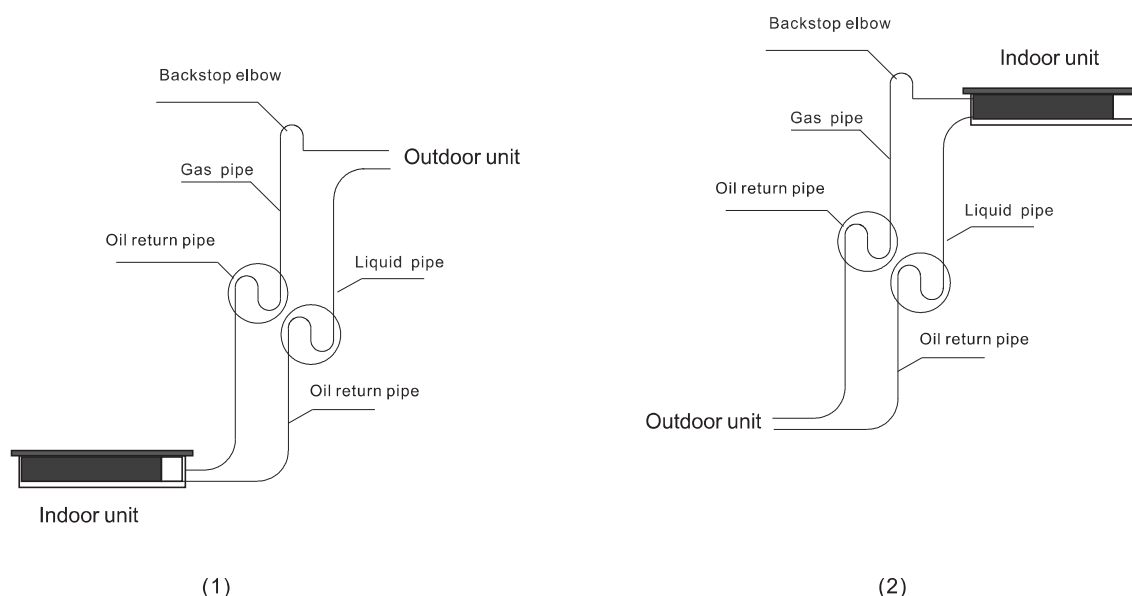

Figure 9
- c. The indoor unit is mounted on the ceiling, See Figure 9 .